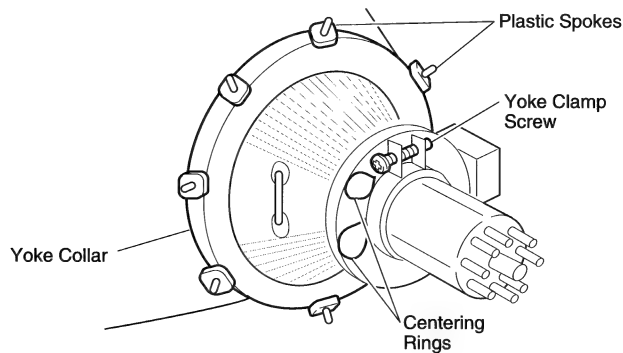

Figure 3 CRT Adjustment Controls
2. Loosen the yoke clamp screw (Figure 3) two or three turns.
4. Place one hand behind your back, and with your other hand grasp only the plastic spokes of the yoke collar (Figure 3). Rotate the yoke collar until the top and bottom edges of the picture appear parallel with the top and bottom edges of the bezel. **(Do not move the magnets, which are preset by the manufacturer and should not be adjusted.)**
6. Hold the yoke collar in position and tighten the yoke clamp screw so that the yoke collar (Figure 3) will not slip. Don't overtighten.
2. Locate the two centering rings on the yoke assembly (Figure 3). If a bonding material is holding the rings in place, use a small knife to break the bonding.